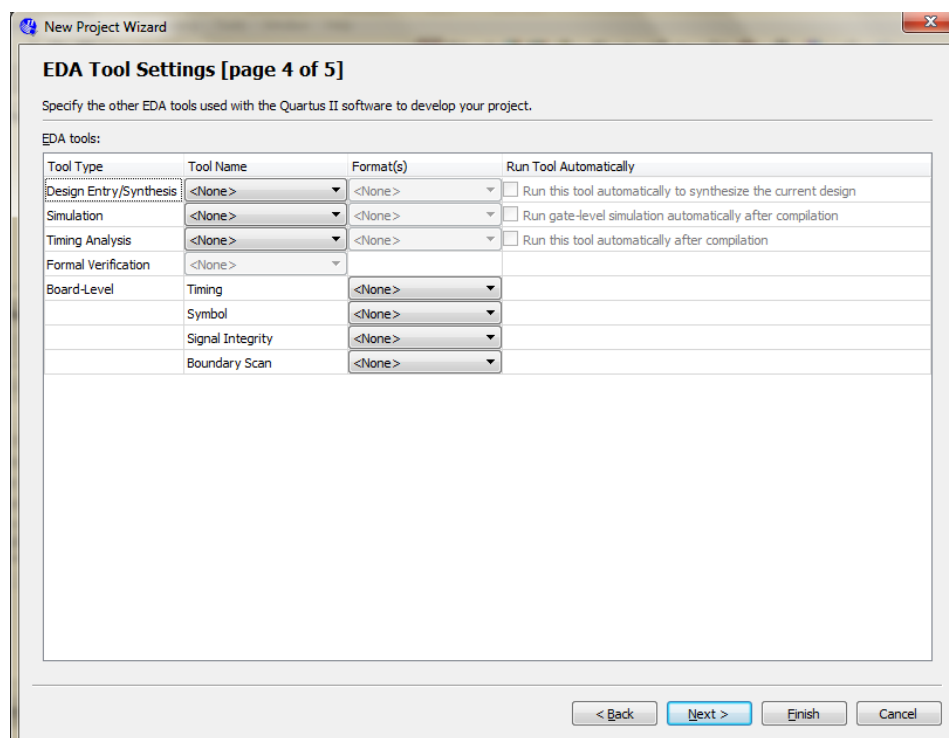

Figure 9. Other EDA tools can be specified.
- We have to specify the type of device in which the designed circuit will be implemented. Choose Cyclone IV E as the target device family and the device called EP4CE115F29C7 which is the FPGA used on Altera's DE2-115 board. After doing these steps click **Next**, which opens the window in Figure 9.